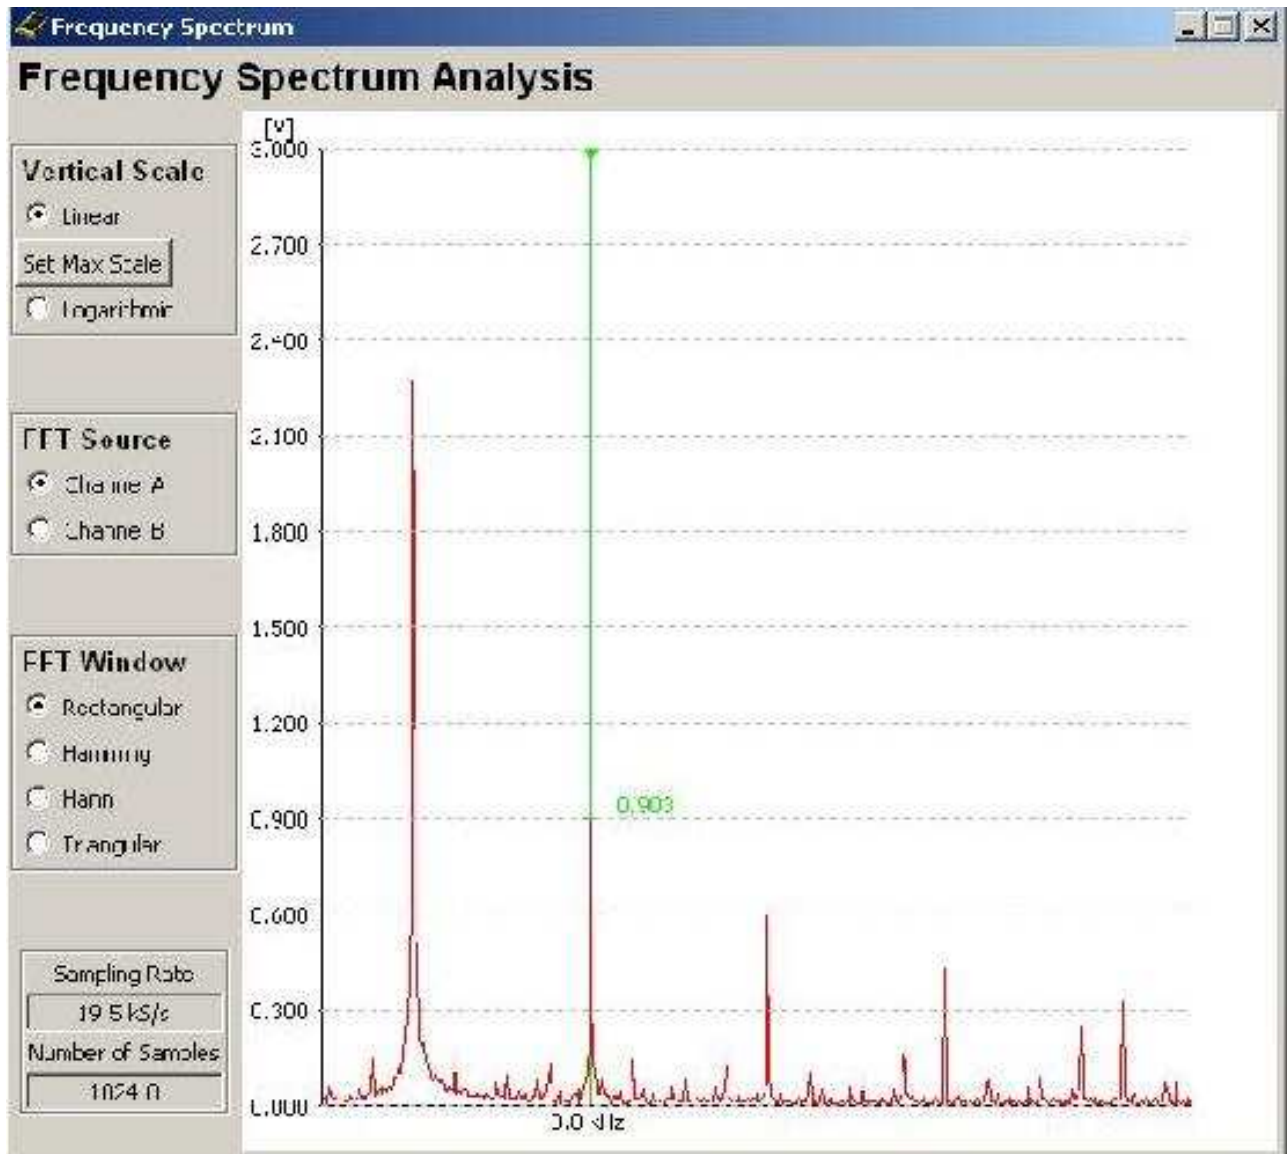

Figure 10: Square Wave Spectrum
Clicking on Tools -> Spectrum Analysis brings up the spectrum analysis display of figure 10. The displayed spectrum in this image is a 10kHz square wave.
- The Effective Sampling Rate is shown in a readout at the bottom right corner of the spectrum display. This is important: the sampling rate must be at least twice the frequencies being analysed to avoid aliasing. Put another way, there must not be frequency components above the Nyquist rate, which is half the sampling rate. In the example shown in figure 10, the sample rate is 20kHz. The frequency components range from 1kHz to 9kHz, below the Nyquist rate of 10kHz5.
will be only approximate. For example, in figure 10, the square wave frequency (generated by a Syscomp WGM-101 waveform generator) is at a frequency 1kHz to within a fraction of a Hz. The 9th harmonic is at 9kHz. The spectrum display readout puts the 9th harmonic at 9.0234 Hz, which is approximately correct.
Determine the frequency resolution (bin spacing) for the case of the display of figure 10.